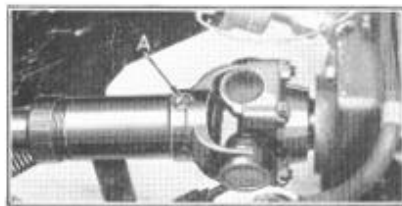

Figure 10
The front universal joint spline shaft should be lubricated every 1,000 miles with viscous chassis grease. To maintain proper balance, a plug is fitted into the universal joint (A), Figure 10, and this should be removed and a lubrication fitting installed to perform the operation. Be sure the fitting is removed and the regular plug reinstalled. Avoid over-lubricating to prevent damage to the oil seal.